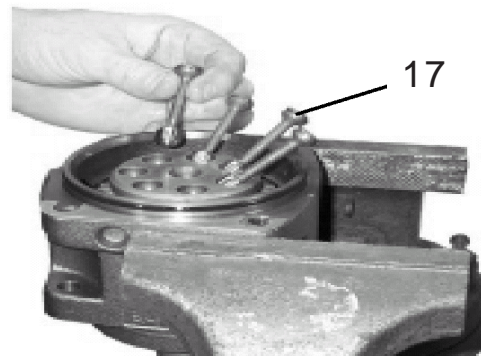

Figure 6
5. Remove the Pistons (item 17), there are 7 pistons and 21 piston rings (item 18) that will be removed. There are 3 piston rings per piston. (See Figure 6)